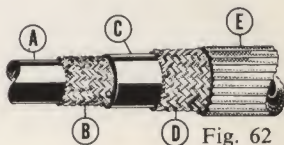

Fig. 62
Two braid hose (Fig. 62) consists of an inner tube (A), a braid insert (B), a separator or friction layer (C), another layer of braid (D), and finally a rubber cover (E) all vulcanized into one.